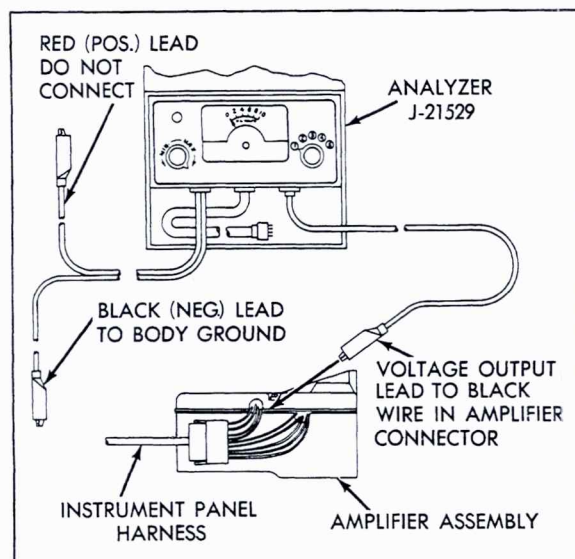

Fig. 15-49 Analyzing Component Failure
a. Connect voltage output lead (red single wire) to Analyzer voltage output socket, Fig. 15-49. Function selector switch must be rotated to position #1.
b. Connect black sleeved connector from Analyzer 13 VDC "in" lead to body ground, and connect voltage output lead to black wire in amplifier 10-way connector, Fig. 15-49. Turn amplifier sensitivity control completely clockwise. **CAUTION: BE SURE CONNECTION IS MADE TO THE ALL BLACK WIRE AND NOT THE BLACK WITH YELLOW STRIPE WIRE.**